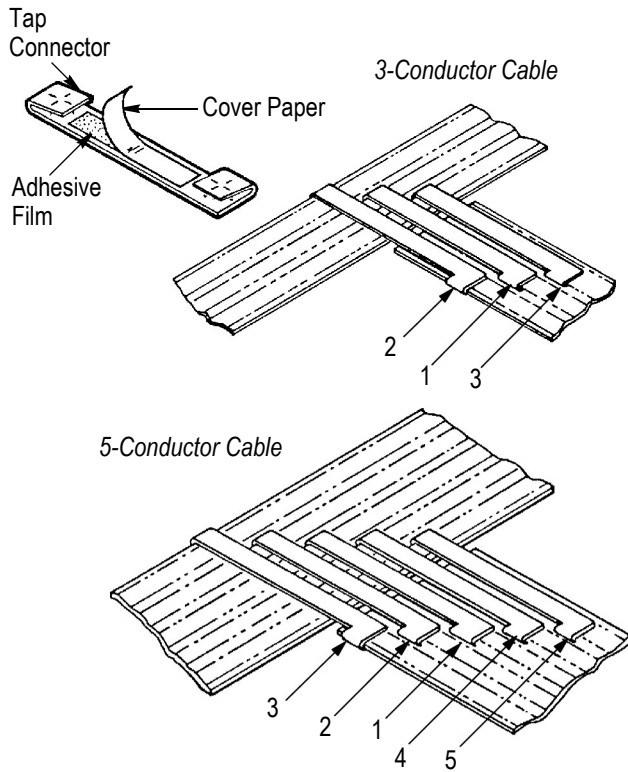

Figure 5
4. Position a tap connector around the appropriate conductor on each cable starting with position 1 of the crimping order shown in Figure 5. Then, using Hand Tool 91392-1, crimp the connectors as follows.
- f. Position and crimp the remaining tap connectors following the crimping order shown in Figure 5.